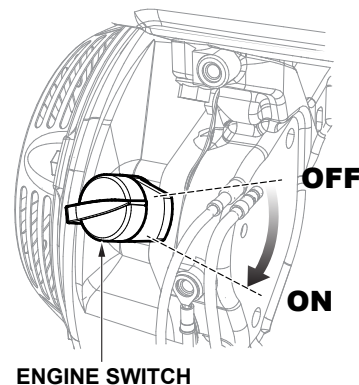

Figure 9. Engine ON/OFF Switch (ON)
5. Place the engine **ON/OFF** switch in the **ON** position (Figure 9).